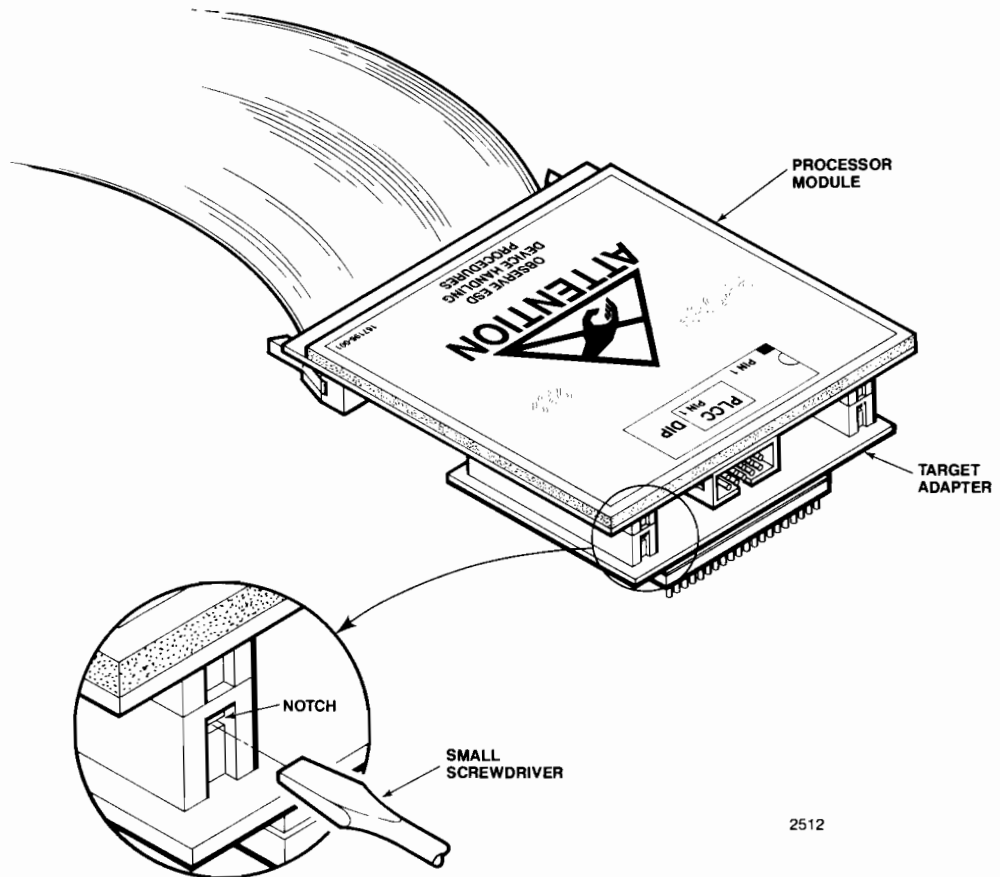

Figure 1-9 Removing the Target Adaptor from the Processor Module
2. There are four slots (one in each corner) between the target adaptor and the iSBX connectors on the processor module (refer to Figure 1-9).